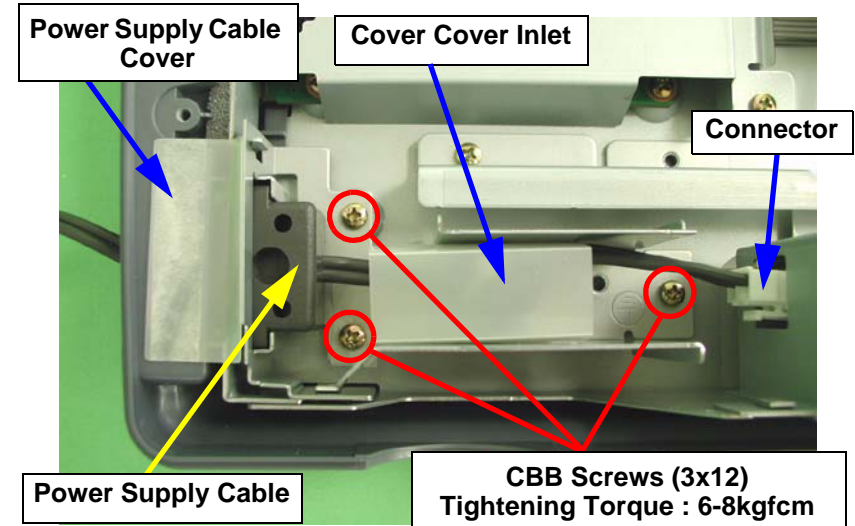

Figure 4-34. Power Supply Cable Removal (1)
4. Remove the three screws (CBS, M3x5), and disconnect the lock-type connector (CN1) from the power supply circuit board. (See Figure 4-34)
5. Remove the power supply cable cover. (See Figure 4-34)